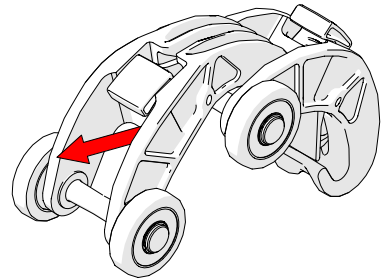

Fig. 26 - Pull the link backwards to secure catch
2. Pull the QuickLink until you hear a click that ensures the latch has been set (Fig. 26).